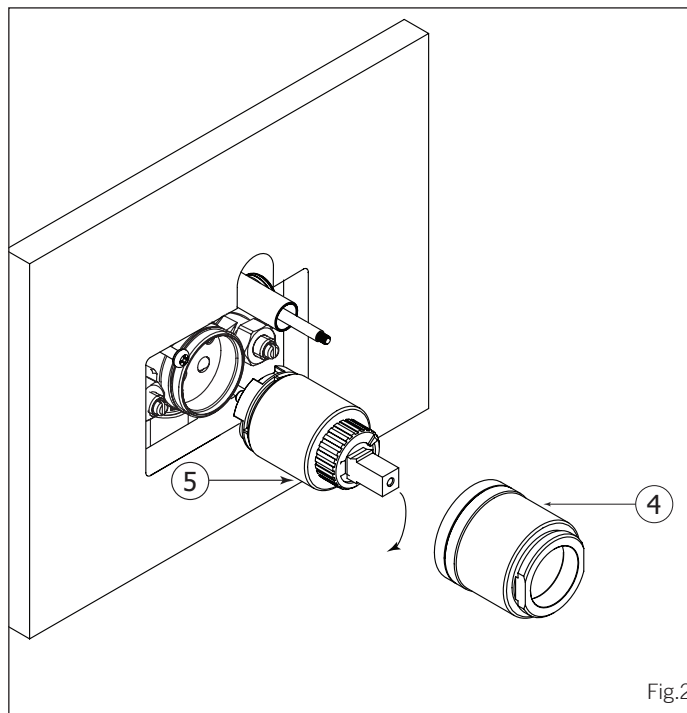

Fig.2
Insert the cartridge into the valve body as shown (Fig.2). Screw the cartridge holder (4) back into place. **DO NOT OVERTIGHTEN.**
(Voir Fig.2). Revisser le manchon (4) en place. **NE PAS TROP SERRER.**